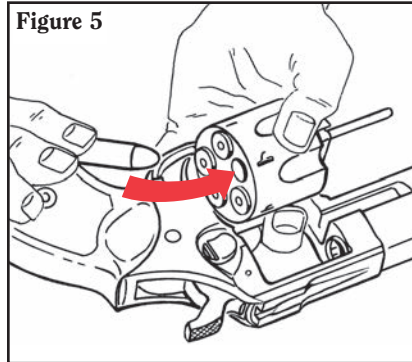

Figure 5
1. Press the crane latch and guide cylinder out of frame to the left to its loading position (see Figure 5).